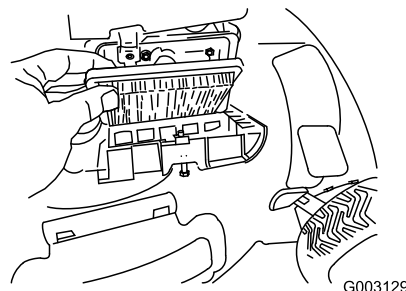

Figure 33
3. Replace the air filter (Figure 33).